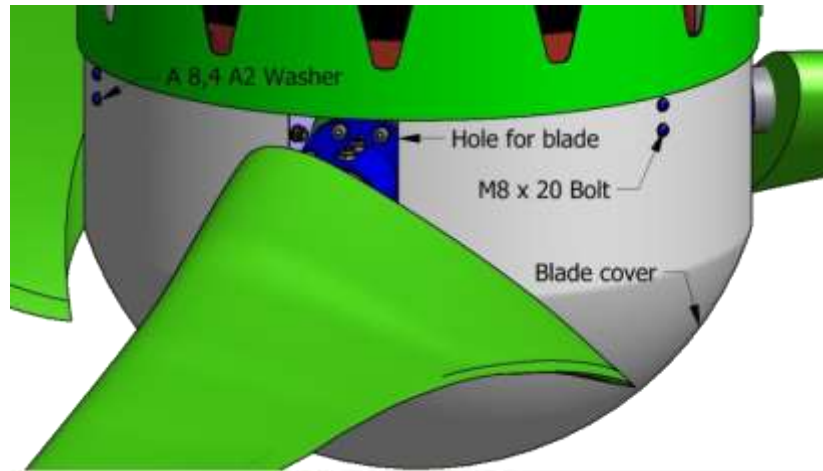

Figure 20 – Placing the blade cover
1. Take the my!Wind blade cover and place it from underneath onto the cover holders in a way that the blades pass through the hole for blade (see Figure 20). Align the six fixing holes in the cover and in the blade holders. Use two person to perform this job.